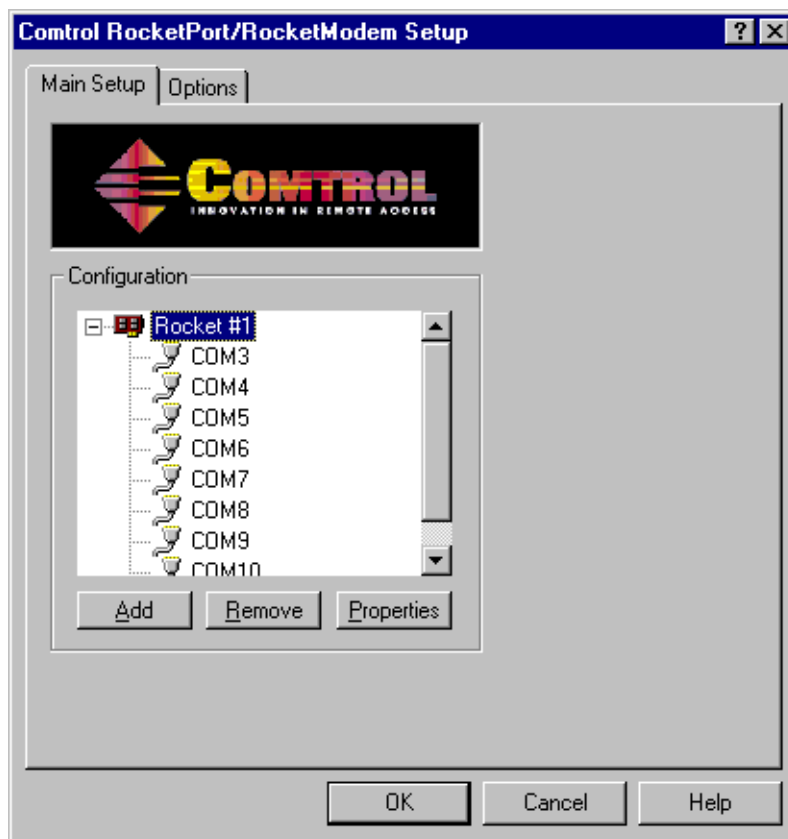

Figure 9. Choose the Options tab.
14. Choose the Options tab in the Control RocketPort/RocketModem Setup dialog box (see Figure 9).